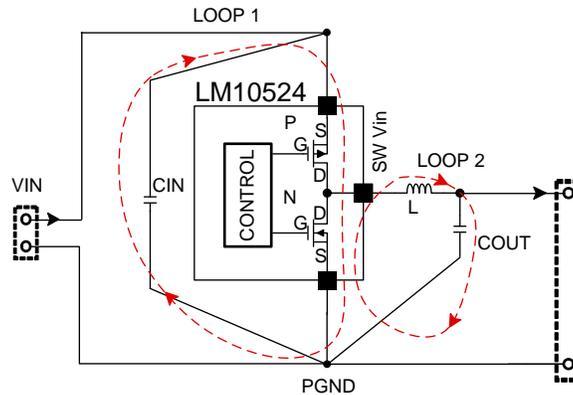

Figure 29. Buck Schematic Showing Layout Sensitive Nodes
1. Minimize area of switched current loops. In a buck regulator there are two loops where currents are switched rapidly. The first loop starts from the CIN input capacitor, to the regulator Vin pin, through to PGND and back to the CIN input capacitor. The second loop starts from the output capacitor ground, to the regulator PGND pins, to the inductor and then out to COUT and the load (see Figure 29). To minimize both loop areas the input capacitor should be placed as close as possible to the PVIN pin. Grounding for both the input and output capacitors should consist of a small localized top side plane that connects to PGND. The inductor should be placed as close as possible to the SW pin and output capacitor.